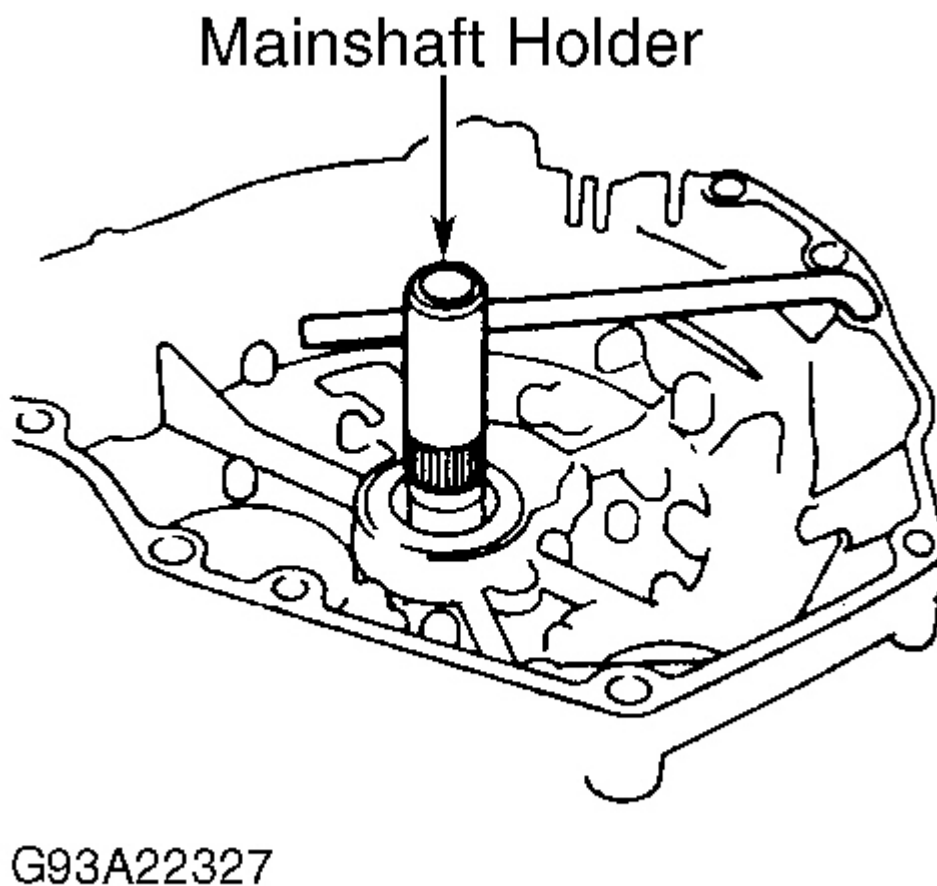

Fig. 9: Installing Mainshaft Holder
1. Remove bolts, protector (if equipped), right side cover and gasket. See **Fig. 8** . Install Mainshaft Holder (07GAB-PF50100) on mainshaft to secure mainshaft from rotating. See **Fig. 9** .